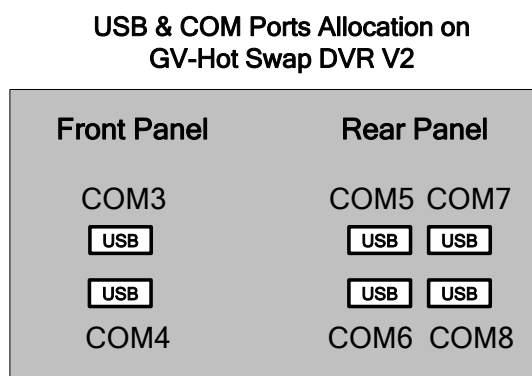

Figure 34-2
2. In the Port field, modify the port number from the drop-down list. For the port allocation, refer to Figure 34-2.